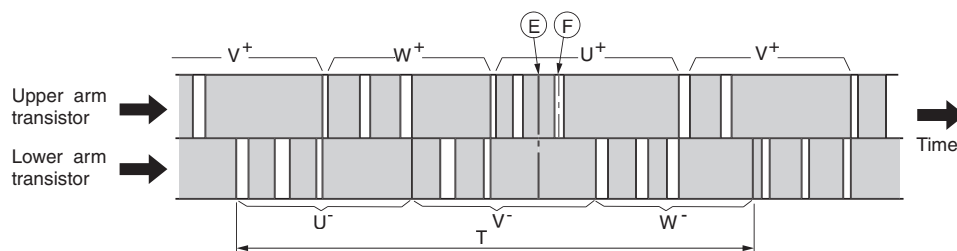

Fig. 7-2 Switching order of power module
The switching order is as shown in Fig. 7-2.
Time T in Fig. 7-2 shows the switching period, and relation with rotation speed (N) of the compressor is shown by formula below;